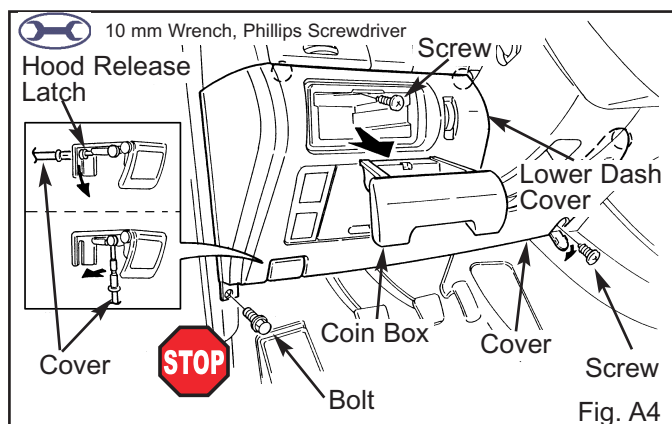

Fig. A4
(Fig. A4)
5. Remove the coin box from the lower dash cover. (Fig. A4)
6. Remove the lower dash cover. (Fig A4)